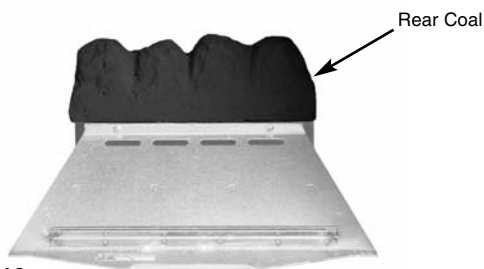

Fig. 13
1. Place the rear coal on the rear coal retainer ledge in a central position (Fig. 13).